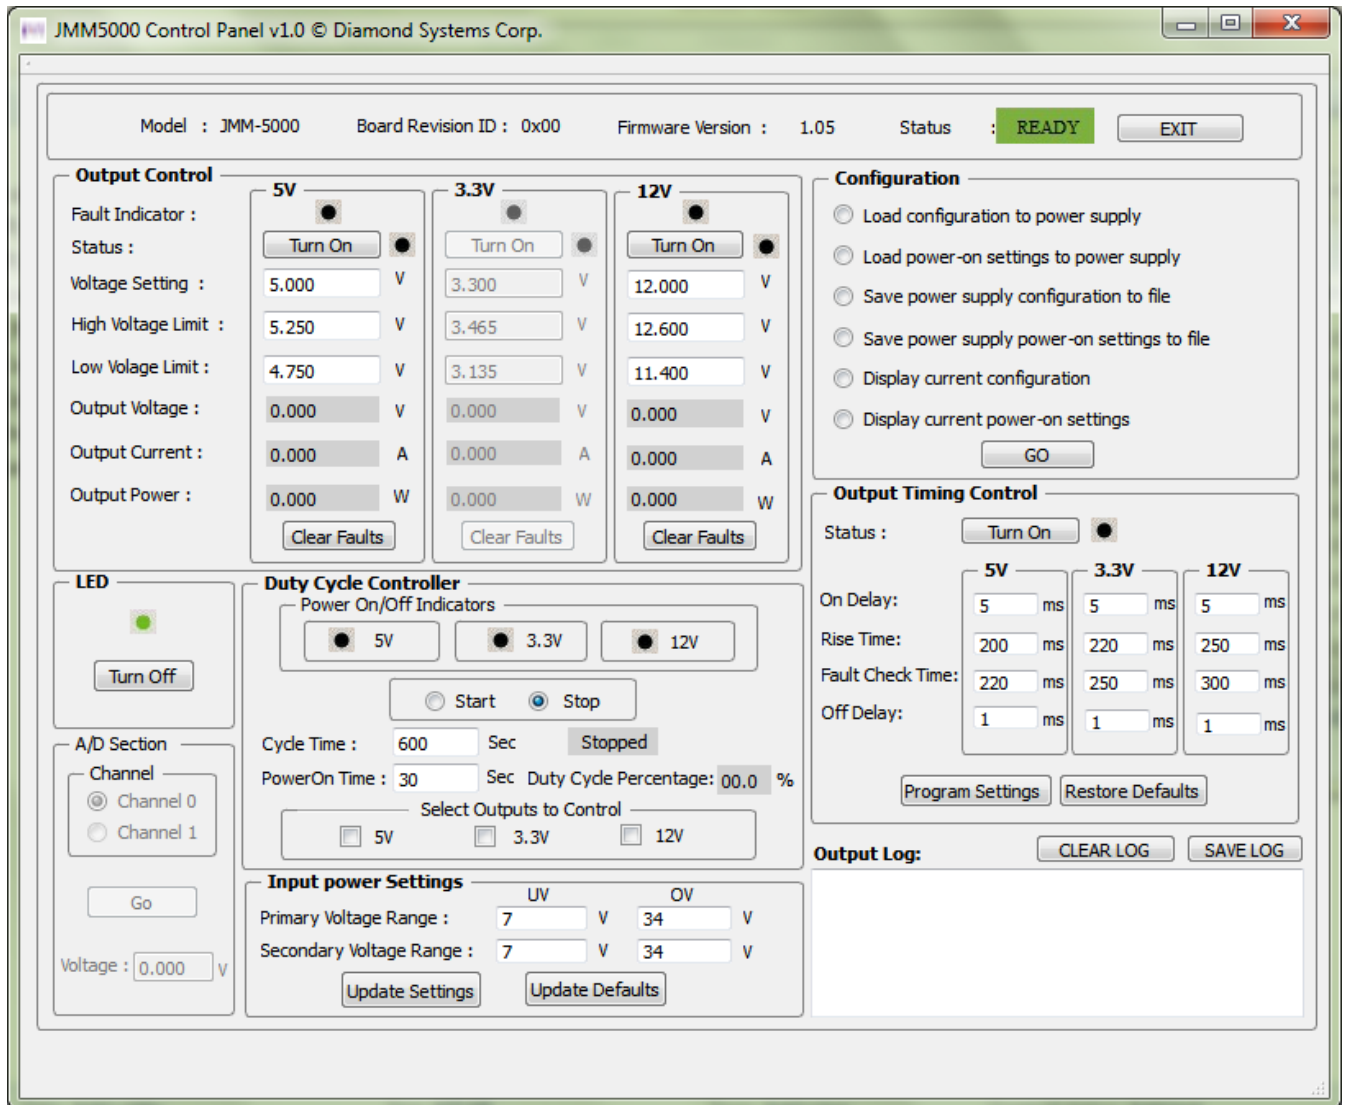

Figure 1: JMM-5000 Control Panel
- The main window of the control panel software is displayed on the screen as shown below in Figure 1.